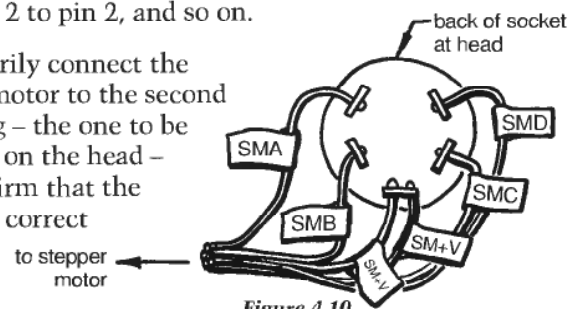

Figure 4.10
17. Temporarily connect the stepper motor to the second DIN plug – the one to be installed on the head – and confirm that the wiring is correct (Figure 4.10).